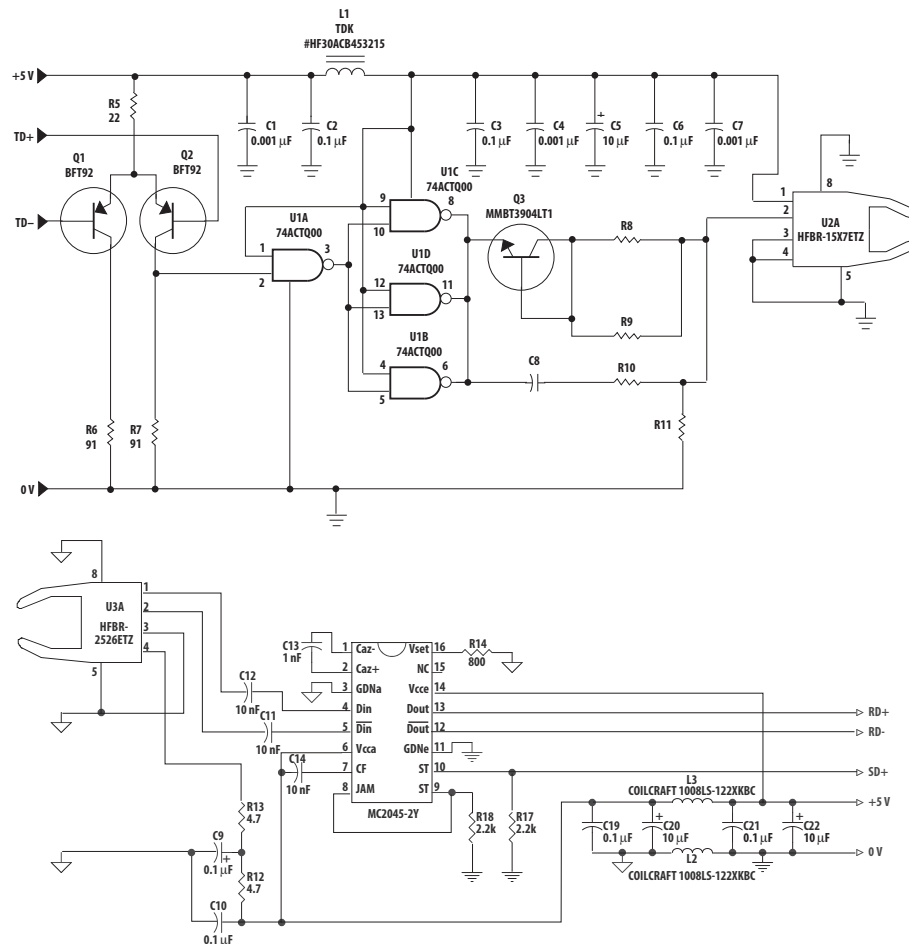

Figure 1. Transmitter and receiver application circuit with +5 V ECL inputs and outputs.
Data link operating conditions and performance are specified for the HFBR-1527ETZ transmitter and HFBR-2526ETZ receiver in the recommended applications circuits shown in Figure 1. This circuit has been optimized for 125 MBd operation. For other data rate application, please refer to application notes: AN1121, AN1122 and AN1123.
Recommended Operating Conditions for the Circuits in Figures 1 and 2
1. If the output of U4C in Figure 1, page 4 is transmitted via coaxial cable, terminate with a 50 Ω resistor to V_{CC} - 2 V.
Performance of the HFBR-1527ETZ transmitter in the recommended application circuit (Figure 1) for POF; 1-125 MBd, 25° C.
Performance of the HFBR-1527ETZ transmitter in the recommended application circuit (Figure 1) for HCS; 1-125 MBd, 25° C.
Performance^[4] of the HFBR-2526ETZ receiver in the recommended application circuit (Figure 1); 1-125 MBd, 25° C unless otherwise stated.
Electrical/Optical Characteristics -40 to 85° C; 5.25 V ≥ V_{CC} ≥ 4.75 V; power supply must be filtered (see Figure 1, Note 2)
- The signal output is an emitter follower, which does not reject noise in the power supply. The power supply must be filtered as in Figure 1.